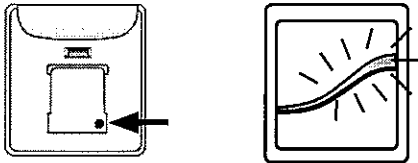

Fig. 1
A. Press and release the program button on the back of the remote three times (three taps). The LED will flash, alternating amber to identify exclusion mode. (Fig. 1)